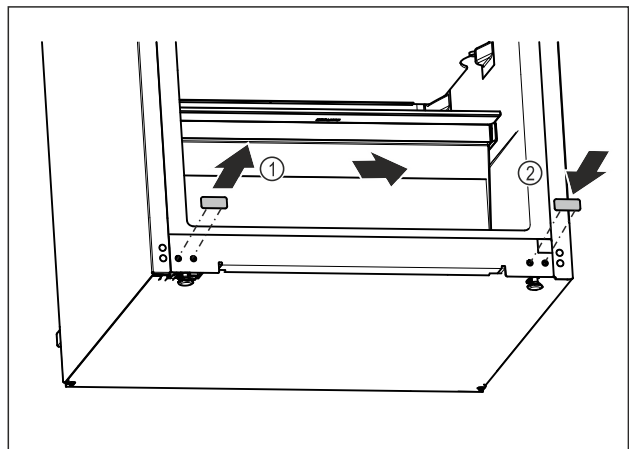

Fig. 12
- ▶ Pull out the cover plug. *Fig. 12 (1)*
- ▶ Insert the cover plug on the opposite side. *Fig. 12 (2)*